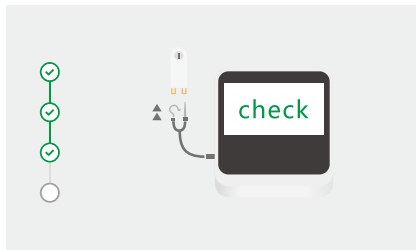

Fig.35 Connect tester
- Connect File clip and lip clip (or a second File clip) to the contact strips on the tester as shown on the screen(Fig. 35).